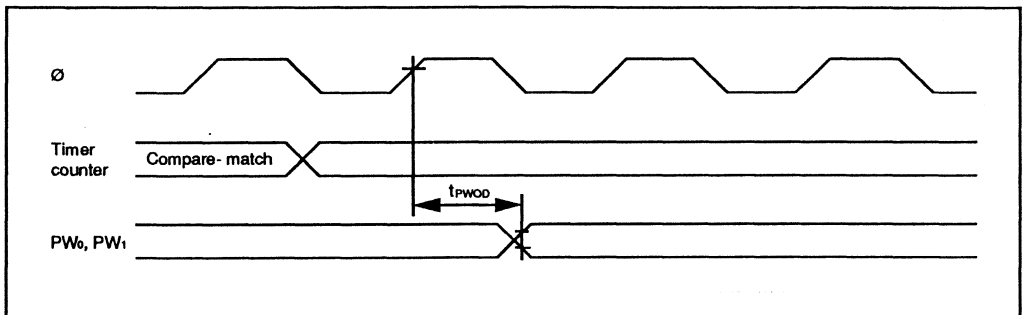

Figure 17-16. PWM Timer Output Timing
17.3.5 PWM Timer Timing	Figure 17-16